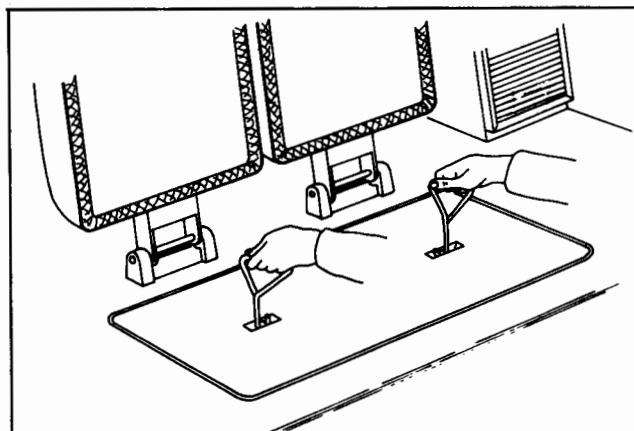

Fig. 2 – Removal of Hot Plate
- a. Lift out the hotplate via the lifting tools – See Fig. 2.